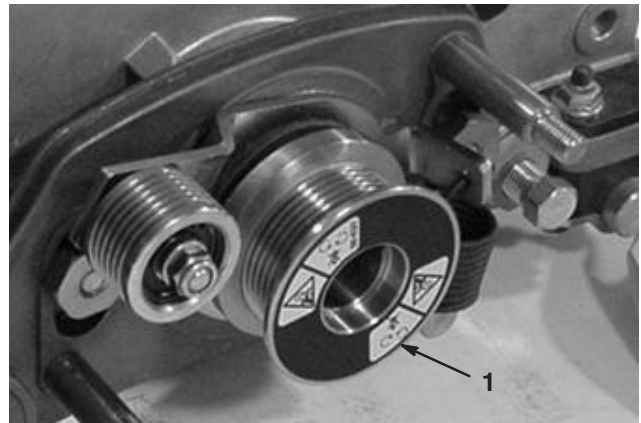

Figure 34
7. Remove the groomer drive pulley from the reel shaft (Fig. 34).